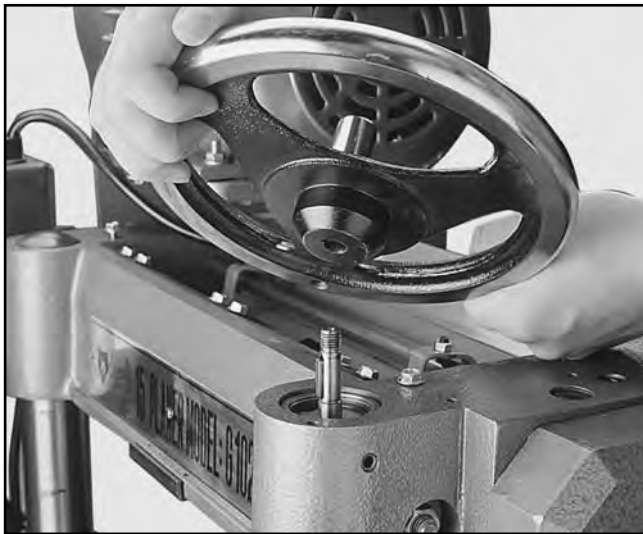

Figure 6. Handwheel attachment.
1. Place the handwheel over the keyed shaft on the planer body. Make sure the key on the shaft and the keyway on the handwheel line up. The handwheel shaft is at the front right of the planer. See **Figure 6**.